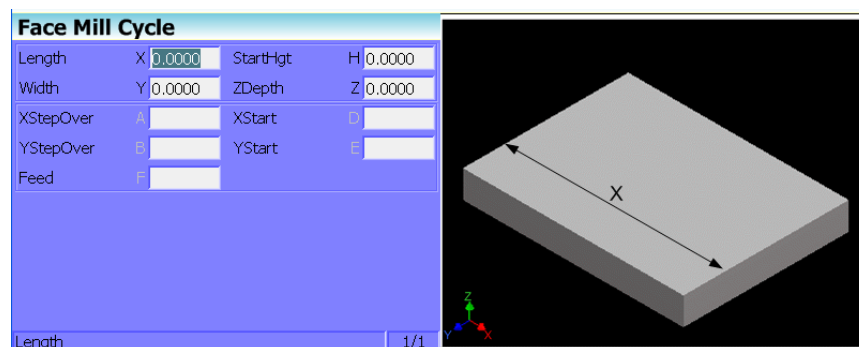

Figure 4-12, Face Mill Cycle Graphic Menu
2. Move the highlight to select **Face** and press **ENTER** to display the Face Mill Cycle Graphic Menu. Refer to **Figure 4-12**.